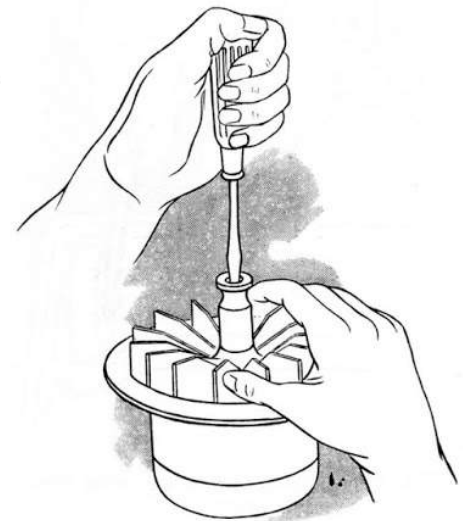

FIG. 113—Loosening fan and fan pulley
- b. On other models, insert screw driver thru the fan pulley into the slot at the lower end of the armature shaft. Turn screw driver to left while holding the fan and remove *fan pulley*. Figure 113. With screw drivers held between fan and motor bottom plate, pry *fan* off shaft.